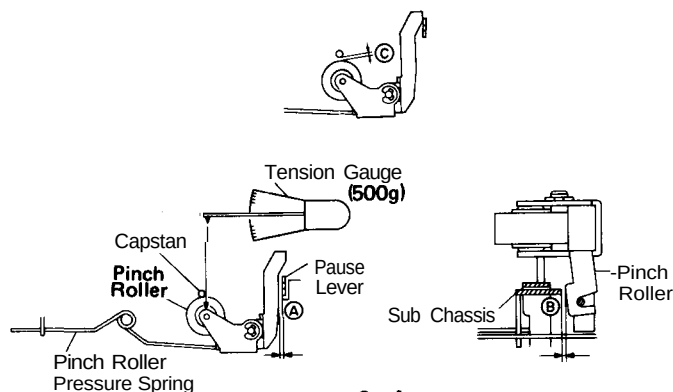

Figure 8-4
2. Push the pinch roller, at the point shown in Figure 8-4, by using a tension gauge (500 g) so that it will come off the capstan. Then, slowly release the tension until the pinch roller hits the capstan again (i.e., the pinch roller is about to rotate again). Check, then, the tension gauge is reading 270 g to 370 g.